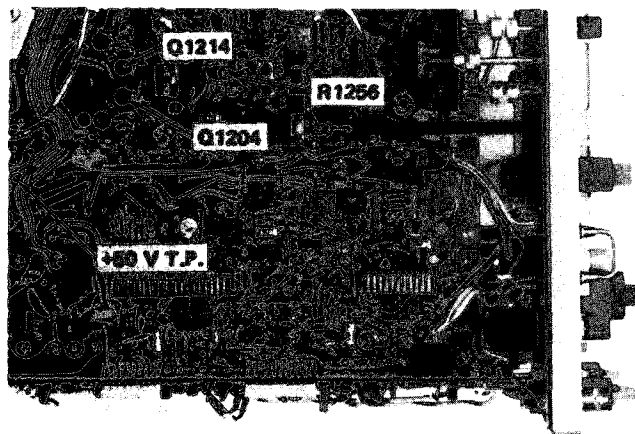

Fig. 5-26. Location of Q1204, Q1214, +50 V TP, and Horizontal Output Centering adjustment.
d. Connect a X10 probe from the Test Oscilloscope to the +50 V test point on the 475 (see Fig. 5-26).
g. Alternately check the voltage on the collectors of (Q1214 and Q1204 (see Fig. 5-26).
j. ADJUST-Horizontal Output Centering adjustment, R1256 (see Fig. 5-26), for +50 V on the collector of Q1214 and Q1204.